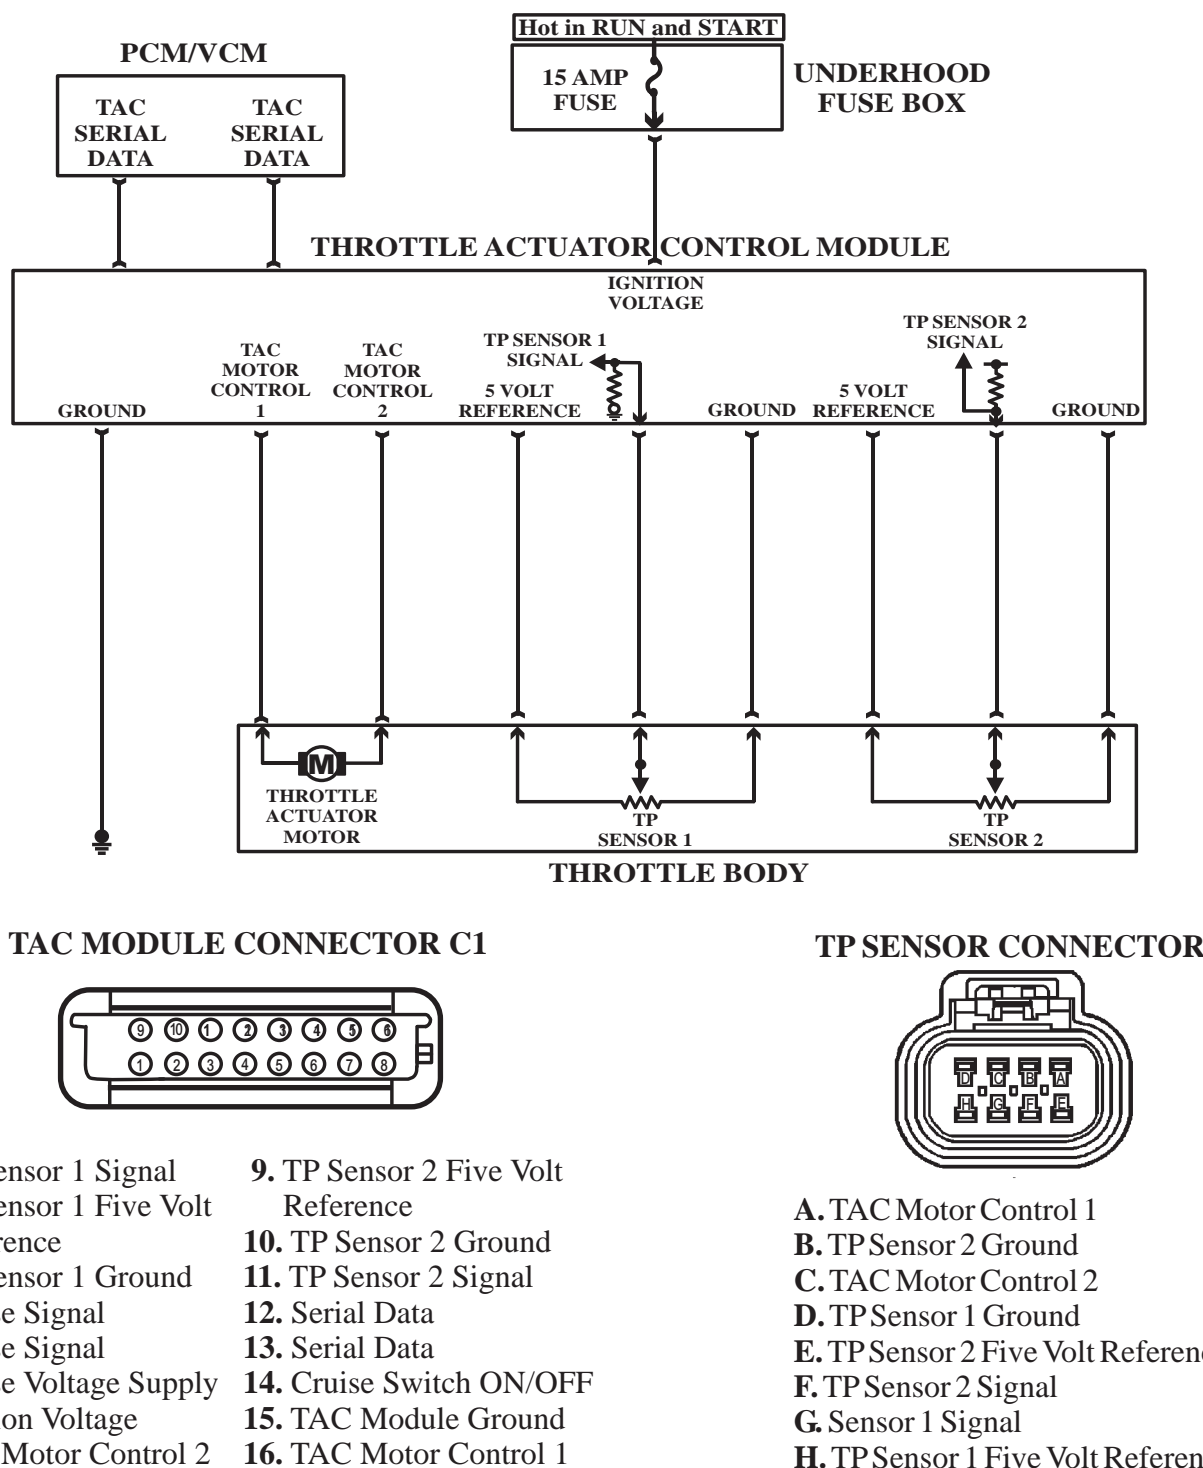

Figure 74
- Throttle Position Sensor 1 ground circuit is open or not properly grounded, (See Figure 74).
- Throttle Position Sensor 1 signal circuit is open or shorted, (Refer to Figure 74).
- Throttle Position Sensor 1 does not have a correct 5 volt reference voltage supply, (Figure 74).
- Throttle Position Sensor 1 or 2 ground, signal or 5 volt reference circuits are damaged, Fig. 74.
- Loss of power or ground to the TAC Module, (Refer to Figure 74).
- **Disconnect the throttle actuator motor!** Operate the throttle plate while observing the voltage reading with a DVOM on TP Sensor 2 signal circuit (Refer to Figure 74) and compare this to the corresponding parameter on the scan tool using the chart in Figure 73.
- Verify the integrity of the 5 volt reference voltage and ground circuits for TP Sensor 2, Refer to Figure 74). It is the TAC Module that provides the 5 volt reference voltage and ground.
- **Disconnect the throttle actuator motor!** Operate the throttle plate while observing the voltage reading with a DVOM on TP Sensor 1 signal circuit (Refer to Figure 74) and compare this to the corresponding parameter on the scan tool using the chart in Figure 73.
- Verify the integrity of the 5 volt reference voltage and ground circuit for TP Sensor 1, Refer to Figure 74). The TAC Module provides the 5 volt reference voltage and ground.
- **Disconnect the throttle actuator motor!** Operate the throttle plate while observing the voltage reading with a DVOM on TP Sensor 1 and 2 signal circuits (Refer to Figure 74) and compare this to the corresponding parameter on the scan tool using the chart in Figure 73.
- Verify the integrity of the 5 volt reference voltage and ground circuits for TP Sensor 1 and 2, (Refer to Figure 74). It is the TAC Module that provides the 5 volt reference and ground.
- If the lamp illuminates, the throttle motor wires or the motor itself is faulty, if the light does not illuminate check power and ground to the TAC Module, (Refer to Figure 74). If good, replace TAC Module.
- Check power and ground circuits at the TAC Module, (Refer to Figure 74).
- Check TAC Module power and ground circuits, (Refer to Figure 74).
- Approximately 4.5 volts should be present on the serial data circuits, (Refer to Figure 74).